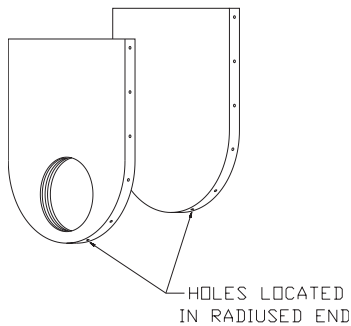

Figure 4
3. Locate the gutter end caps shown in Figure 4.
5. The gutter has pre-punched holes at each end. The end caps also have pre-drilled alignment holes as shown in Figure 4 to match the holes in the gutter. After applying a bead of caulking around the end cap, match the two lower holes in the end cap with the center holes in the gutter and attach using the #10 x 3/4 screws and washers provided.